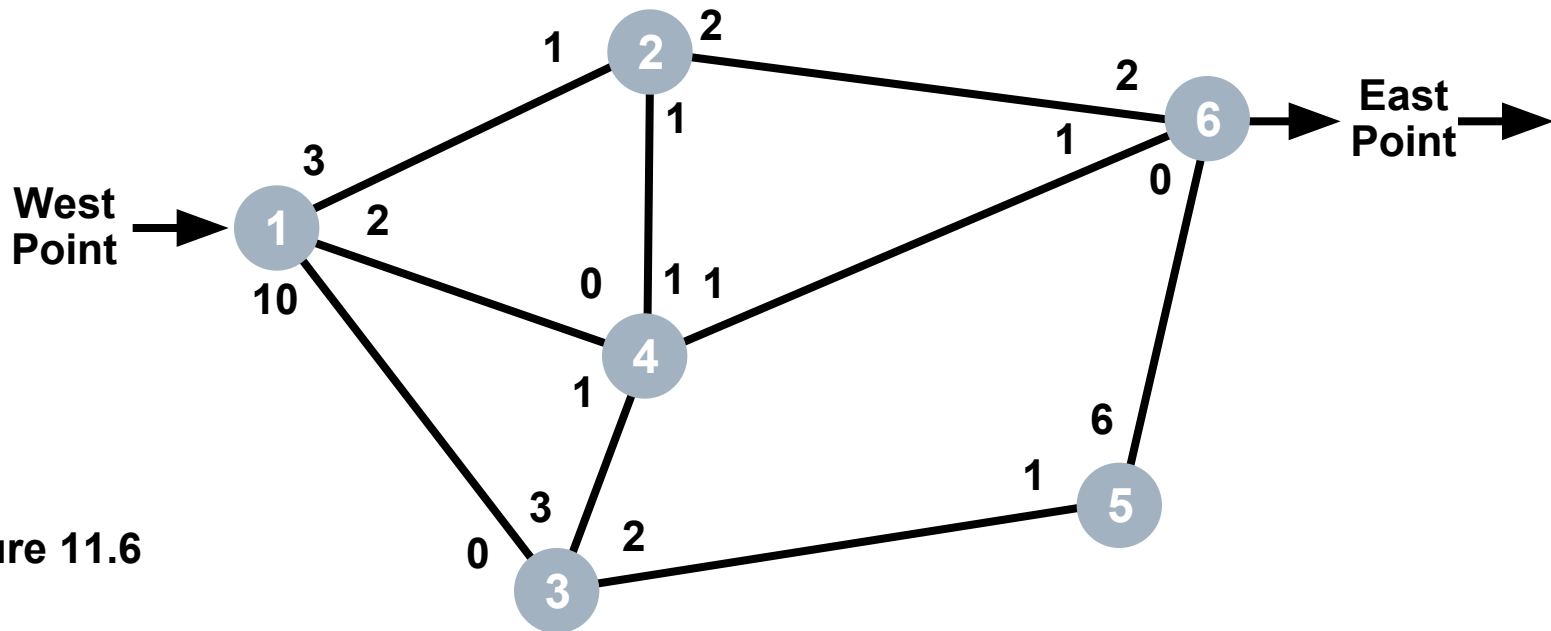

Figure 11.6
- The road network is shown in Figure 11.6.